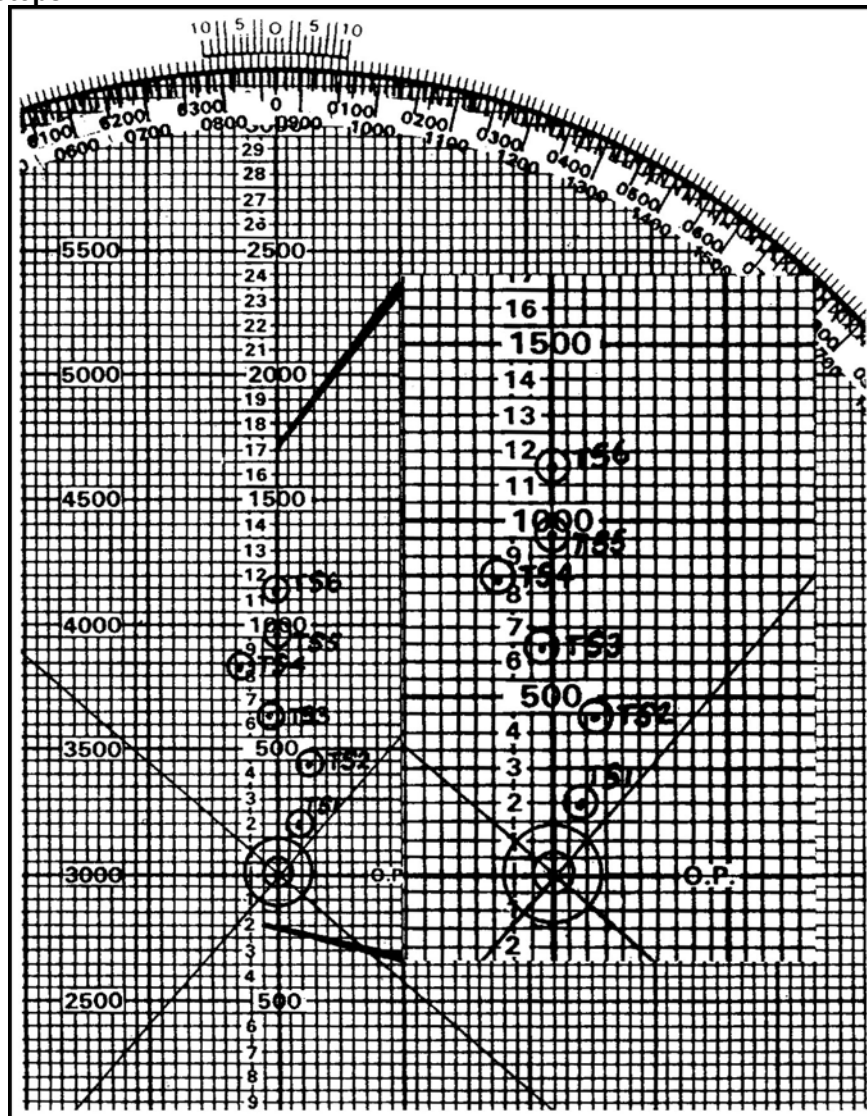

Figure 6. Plotted survey data from pivot point.
(3) From the pivot point, move 200 meters (8 squares) along the index line (ensure azimuth 1260 is indexed), place a dot, and circle it. Mark this point as TS-1 to complete traverse leg 1.
(4) The azimuth for the second traverse leg is 1145 mils. Once again, index this azimuth on the plotting board.
(5) For TS-2, the mil angle for the 2-meter subtense bar width was 7.0 mils; this equals a distance of 290 meters. Index 1145 mils on the plotting board, move a distance of 290 meters (5 4/5 squares) from TS-1 along or parallel to a vertical line, and place a dot. Circle it and mark it TS-2. Complete traverse legs 4, 5, and 6 using the same procedures (Figure 6).
- (6) Rotate the M16 plotting board until TS-6 (mortar position) is directly over the vertical centerline (Figure 6). Read the azimuth. This is the azimuth from the starting point to the base mortar position. Now determine the distance between the pivot point and TS-6. The result is the azimuth and distance from the start point to the base mortar position. From the starting point to the base mortar, the azimuth should have been 0873 mils and a distance of 575 meters (\pm 5 mils and 10 meters).
- (7) Place this information on the map. From the start point along the direction of 0873 mils, move 575 meters. The eight-digit grid at that point is the eight-digit grid of the mortar position. The FDC can now set up a modified-observed chart. If the forward observer can find a point in his area of responsibility that can be identified to an eight-digit grid, then the FDC can set up a surveyed firing chart.